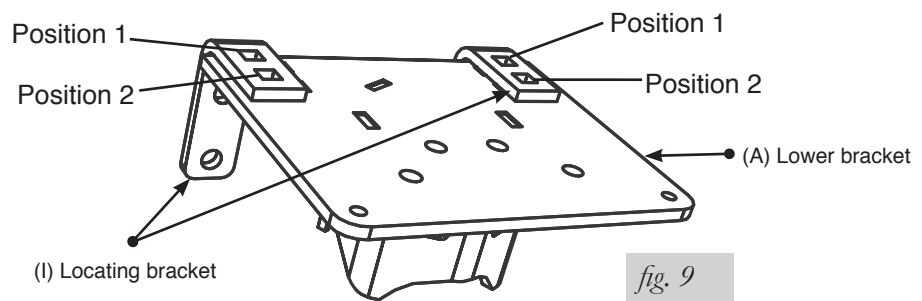

fig. 9
1. Insert a 3/8-16 x 5.5 hex head bolt (K) and flat washer (W) into one of the two bottom holes of the locating bracket (I) (fig. 9).
- 2a. If you are installing this kit on a single rear wheel (SRW) vehicle, use position 2 to insert the long 3/8-16 x 10" carriage bolt (Q) through the top of the locating bracket and lower bracket (fig. 9).
- 2b. If you are installing this kit on a dual rear wheel (DRW) vehicle, use position 1 to insert the long 3/8-16 x 10" carriage bolt (Q) through the top of the locating bracket and lower bracket (fig. 9).
3. Attach the locating bracket (I) to the lower bracket with a 3/8-16 x 1.25" carriage bolt (P), flat washer (W) and nyloc nut (V) using the remaining slot in the top of the locating bracket. Leave loose at this time.
5. Using the 3/8-16 x 5.5 hex head bolts (K) and flat washers (W) previously installed on the locating brackets, insert them into the spring clamp bar (E) on the opposite side of the leaf spring assembly (fig. 9). Cap with 3/8" flat washers (W) and nyloc nuts (V). Leave loose at this time.